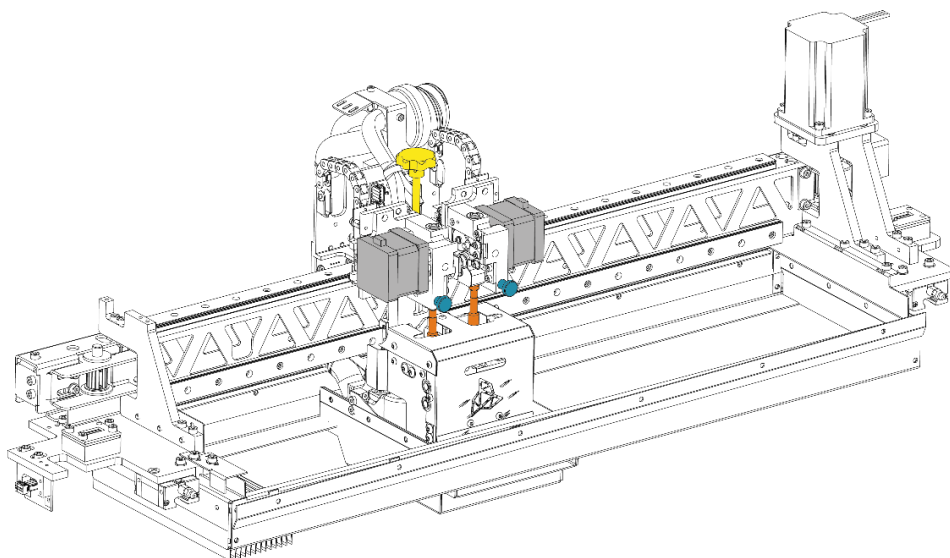
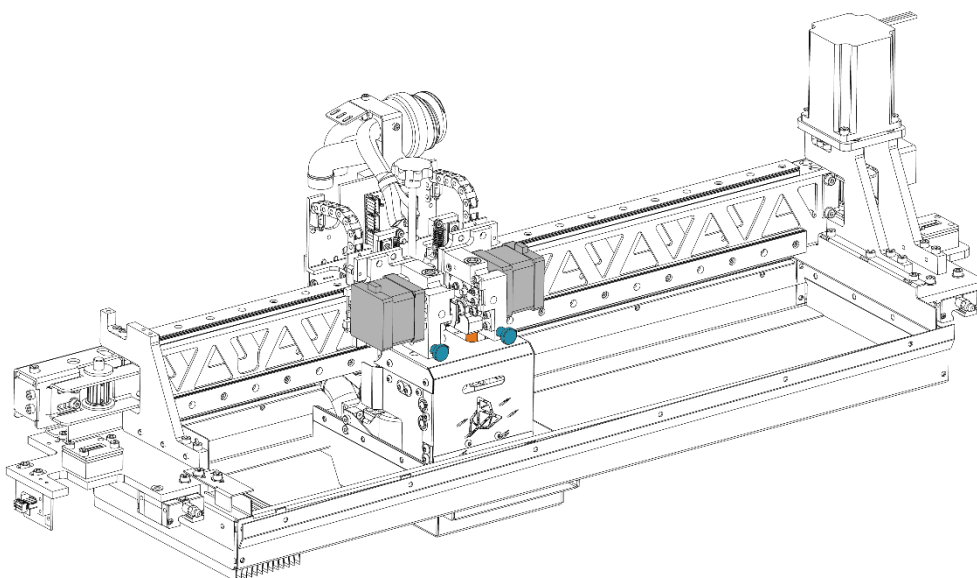

Fig. 69 Printing module installation
Fig. 70 Printing module installation
8. Tighten the knob above the module (Fig. 69, yellow). The knob should be tightened as far as it will go to compensate for any play.
9. Press and hold the T0 extruder locking mechanism (Fig. 69, blue), then lower and release the T0 extruder (Fig. 70, grey). Check that the extruder is locked on the hotend sleeve (Fig. 69, orange) by pushing lightly it upwards. When the extruder is locked properly, it will stay in the lower position (Fig. 70, grey).
10. Press and hold the locking mechanism of the T1 extruder (Fig. 69, blue), then lower and release the T1 extruder (Fig. 70, grey). Check that the extruder is locked on the hotend sleeve (Fig. 69, orange) by pushing lightly it upwards. When the extruder is locked properly, it will stay in the lower position (Fig. 70, grey).
7. Unlock the T0 extruder from the hotend sleeve by pressing the T0 extruder locking mechanism (Fig. 70, blue). The unlocked extruder will be set to a higher position (Fig. 69, grey).
8. Unlock the T1 extruder from the hotend sleeve by pressing the T1 extruder locking mechanism (Fig. 70, blue). The unlocked extruder will be set to a higher position (Fig. 69, grey).
9. Unscrew the knob above the module until it is possible to pull the module socket out of the mounting plate (Fig. 69, yellow).